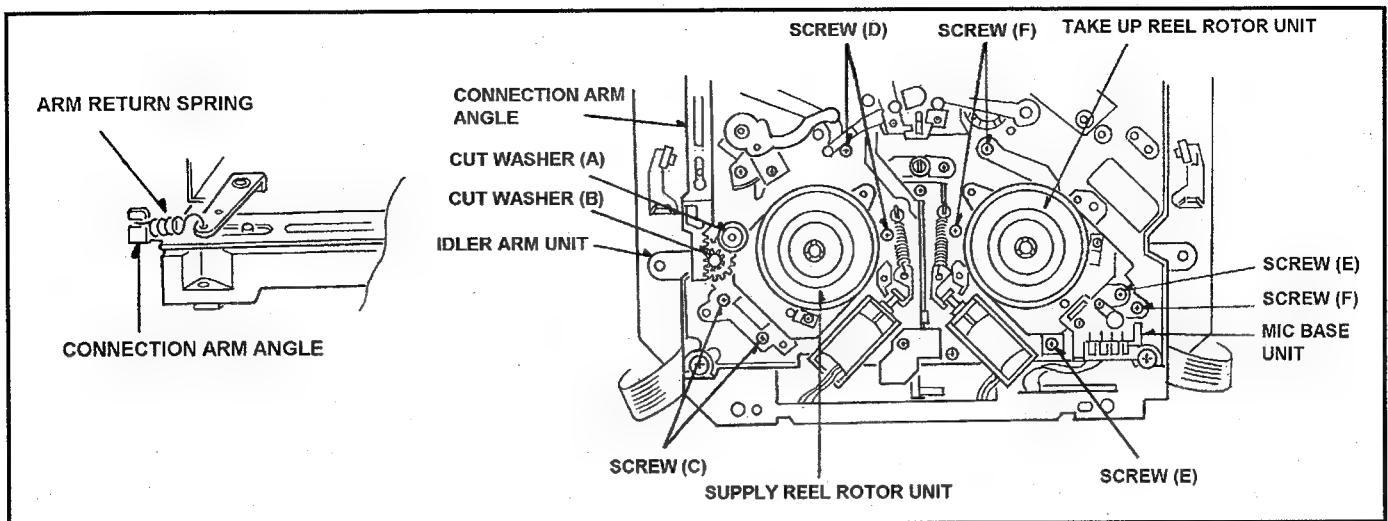
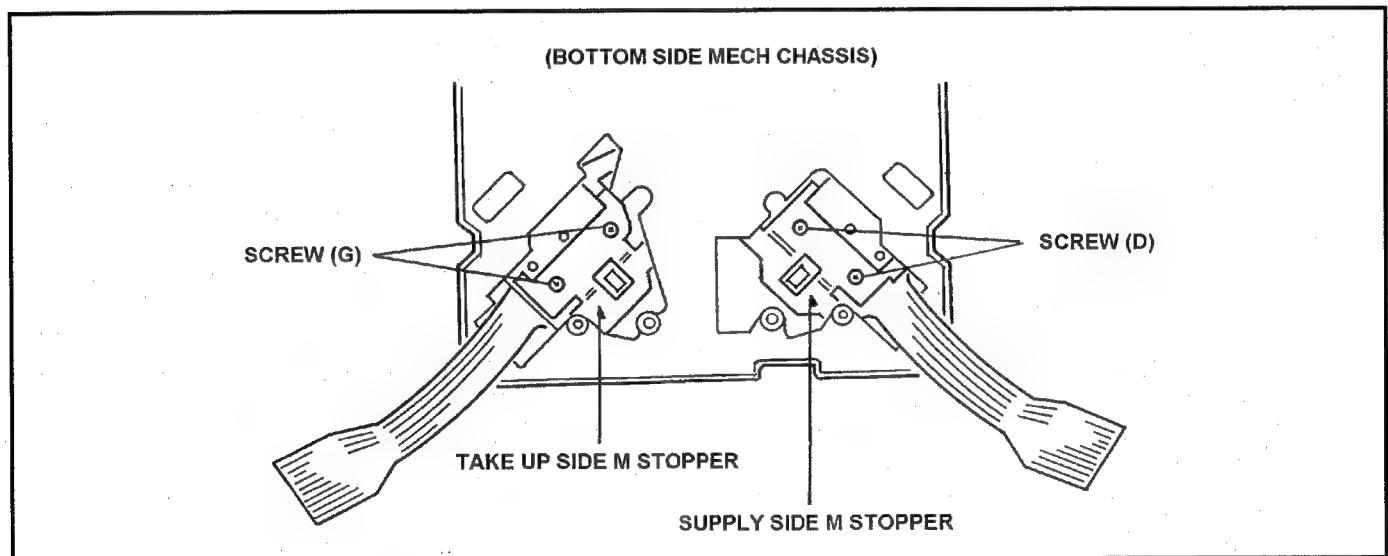

Fig. 10-3-2 Removal of Supply & Take Reel Rotor Unit
Fig. 10-3-3 Removal of Supply & Take Reel Rotor Unit
4. Remove the S5 Post (Refer to item 10-14).
7. Remove the **Cut Washer (A)** and **(B)** to remove the Idler Arm Unit as shown in Figure 10-3-2.
8. Unscrew the **4 screws (C)** to remove the Supply Reel Rotor Unit as shown in Figure 10-3-2.
9. Unscrew the **2 screws (D)** to remove the S-Side M Stopper from Supply Reel Rotor Unit as shown in Figure 10-3-3.
**CAUTION:** Don't touch FG portion with the magnetized screw driver , when unscrewing the **screw (D)**.
3. Remove the Mechanical Chassis Unit (Refer to item 11-4).
4. Disconnect the **connector P615** on the **Servo P.C.Board** and unscrews **the 2 screws (E)**, and then remove the **MIC Base Unit**.
5. Unscrew the **3 screws (F)** to remove the Take Up Reel Rotor Unit as shown in Figure 10-3-2.
**CAUTION:** Don't touch FG portion with the magnetized screw driver when unscrewing the **screw (D)**.
6. Unscrew the **2 screws (G)** to remove the T-Side M Stopper from Take Up Reel Rotor Unit as shown in Figure 10-3-3.